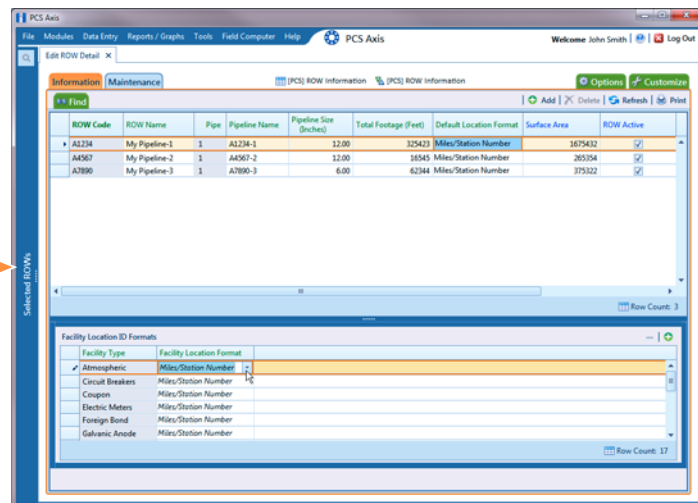

Figure 3-11. Edit ROW Detail
- 3 Click **Data Entry > Edit ROW Detail** to open the *Edit ROW Detail* window (Figure 3-11, page 97).